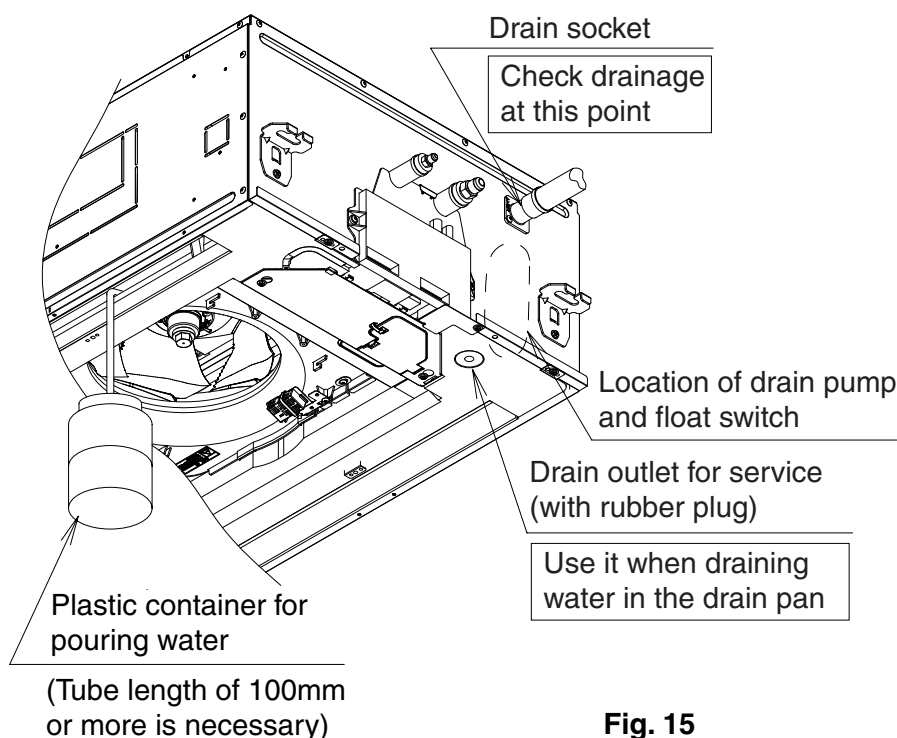

Fig. 15
- Gradually pour 1 liter of water from the air outlet into the drain pan giving caution to avoid splashing water on the electric components such as drain pump and confirm drainage by operating the indoor unit under cooling mode according to “**10. FIELD SETTING AND TEST OPERATION**”. (Refer to **Fig. 15**)
3. Gradually pour 1 liter of water from the air outlet into the drain pan giving caution to avoid splashing water on the electric components such as drain pump. **(Refer to Fig. 15)**